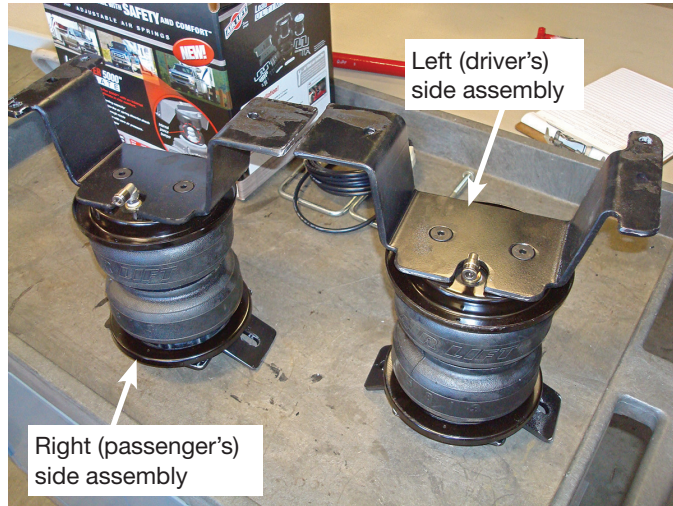

Fig. 15
- Figure 15 shows both left and right assemblies ready to install.